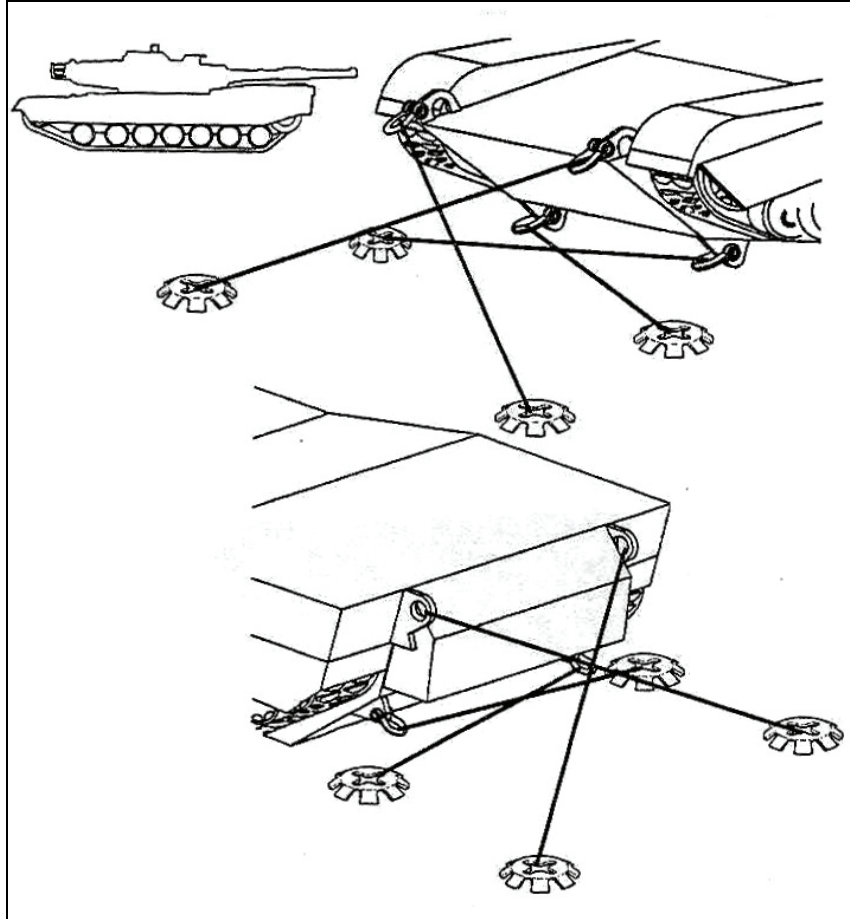

Figure 3-72. Stowing Tracked Vehicles
2. Stow tracked vehicles on RO/RO deck (see Figure 3-72).